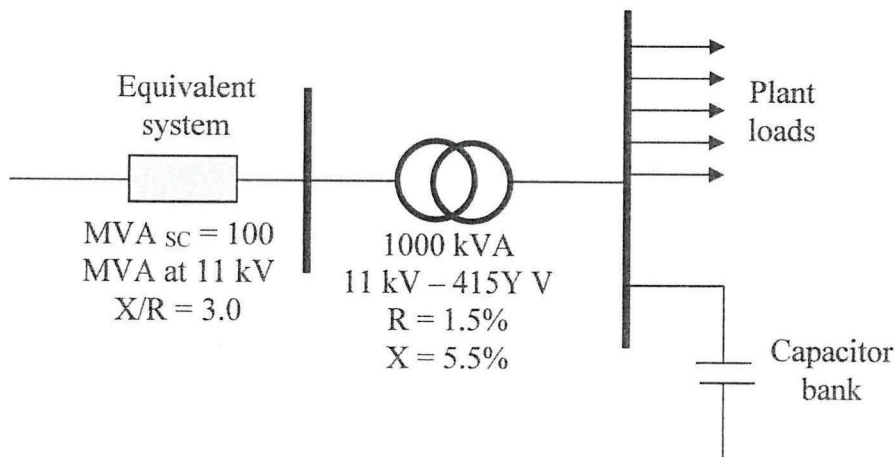

Figure Q3(a)
- Q3 (a)** An one line diagram of an industrial plant is given in **Figure Q3(a)**. It is supplied from the utility 11 kV, three-phase, multi-grounded neutral distribution feeder. The short circuit data from the utility indicates a three-phase short circuit MVA of 100MVA and X/R ratio of 3.0. The transformer supplying the plant is rated at 1000kVA, 11 kV/415Y V, R = 1.5 %, and X = 5.5 %. The system frequency is 50 Hz. Analyse the parallel resonant frequencies for the following values of the power factor correction capacitors applied to the 415 V bus: